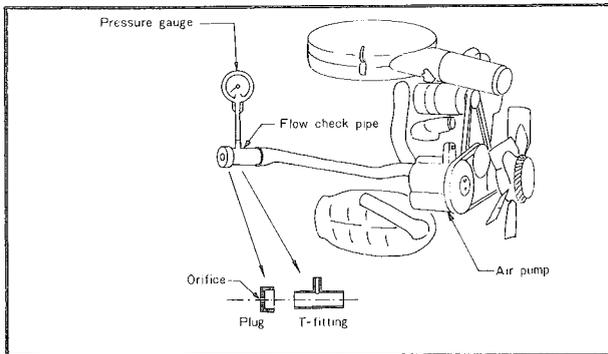

Fig. 1A-1 Checking air pump
6. Attach the air pump gauge set (49 2113 010A) as shown in Fig. 1A-1.